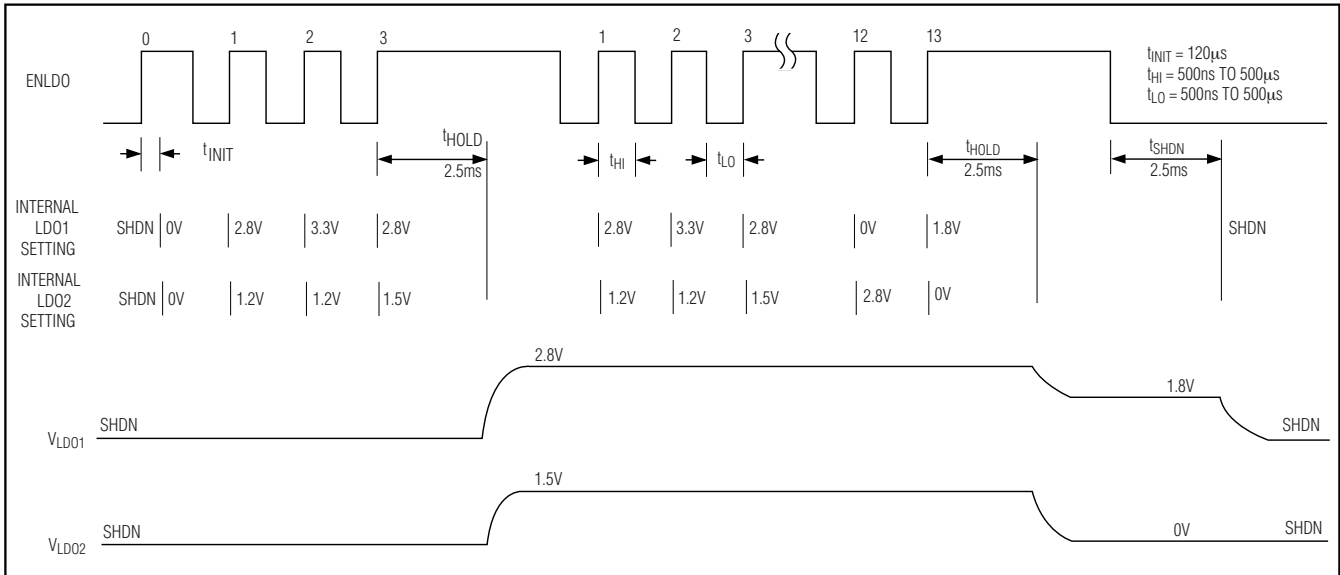

Figure 2. Timing Characteristics for LDO Serial-Pulse Control Interface
**Note 7:** LDO output voltage corresponds to the LDO output voltage programmed by pulsing ENLDO low by the given count and then holding ENLDO high for greater than  $t_{HOLD}$  to set the voltage value. See Figure 2.
Similar to the LED dimming control structure, the MAX8822 uses serial-pulse control to program the output voltages of LDO1 and LDO2 to one of sixteen different combinations. To program the LDO voltages, pulse ENLDO low (500ns to 500µs pulse width), as shown in Figure 2. An internal register accumulates the pulse count on the rising edge of the ENLDO pulse. An initial pulse ( $t_{INIT}$ ) is required to enable the LDOs from shutdown. See Table 3 for LDO voltage combinations and the corresponding ENLDO pulse count. When the desired pulse count is met, hold ENLDO high for at least 2.5ms ( $t_{HOLD}$ ) to internally latch the pulse-count value and program the LDO output voltages at the desired level. If ENLDO is pulsed for more than 15 counts, LDO1 and LDO2 are off when the count is